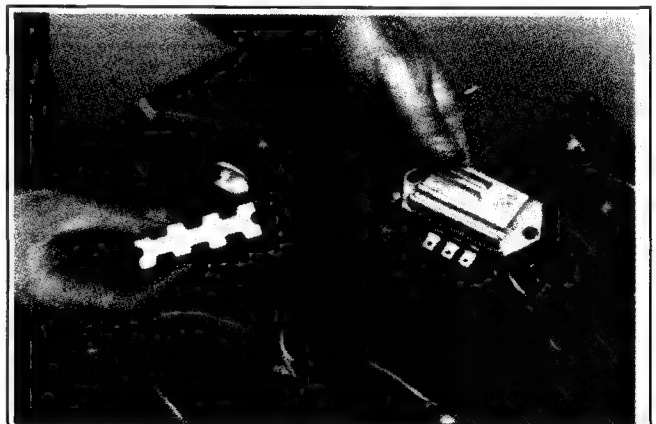

Figure 9-33. Removing Rectifier-Regulator and Spacer.
2. Remove the two mounting nuts holding the rectifier-regulator to the valley baffle. Remove the rectifier-regulator and spacer. See Figure 9-33.